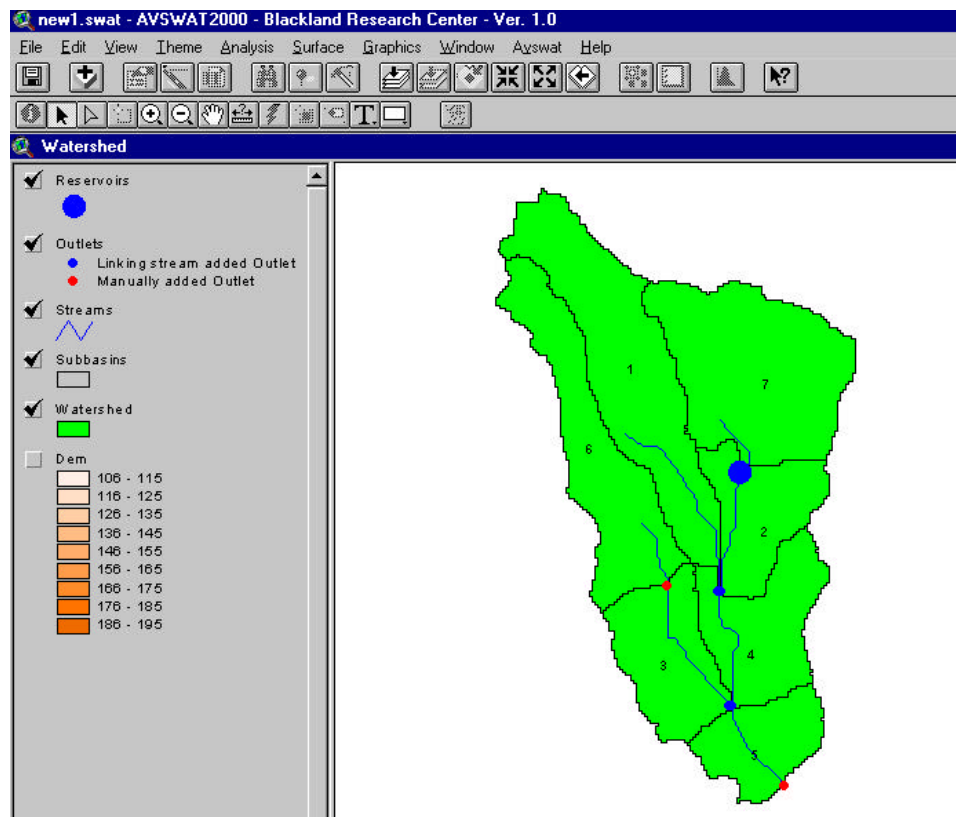

Figure 5.58
- Once the first reservoir location is added, the new *Reservoirs* theme will be added to the Watershed View (Figure 5.58).